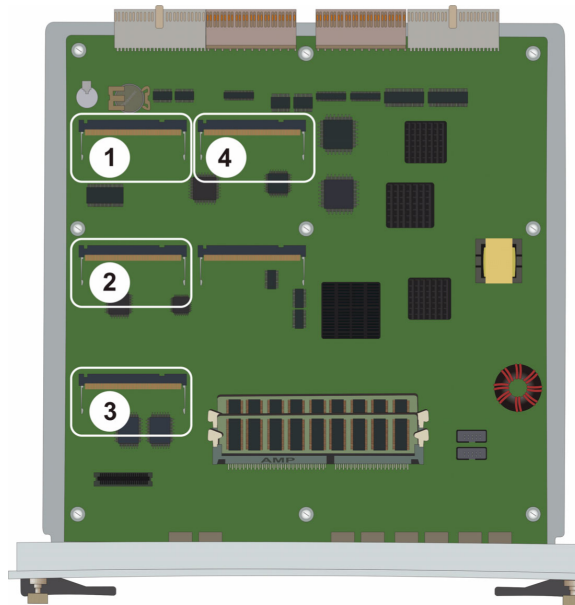
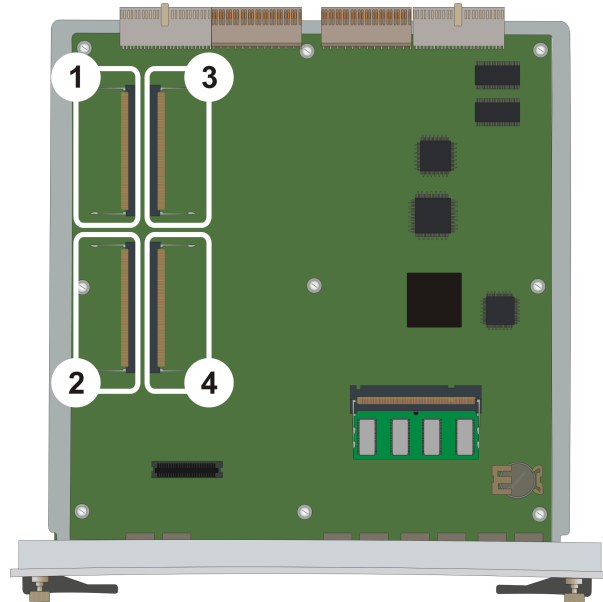

**Figure 22: Location of DSP module slots in a G450 1.x**
**Figure 23: Location of DSP module slots in a G450 2.x, 3.x, and 4.x**
You can only install an MP160 in slots 2 and 4 on the G450 v1 (1.x) or slots 1 and 2 on the G450 v2, v3, v4 (2.x, 3.x, and 4.x). (See Figure 22: Location of DSP module slots in a G450 1.x on page 76 and Figure 23: Location of DSP module slots in a G450 2.x, 3.x, and 4.x on
2. Locate the MP160 module slot. The location differs depending on the hardware version of the G450, see Figure 22: Location of DSP module slots in a G450 1.x on page 76 and Figure 23: Location of DSP module slots in a G450 2.x, 3.x, and 4.x on page 77.